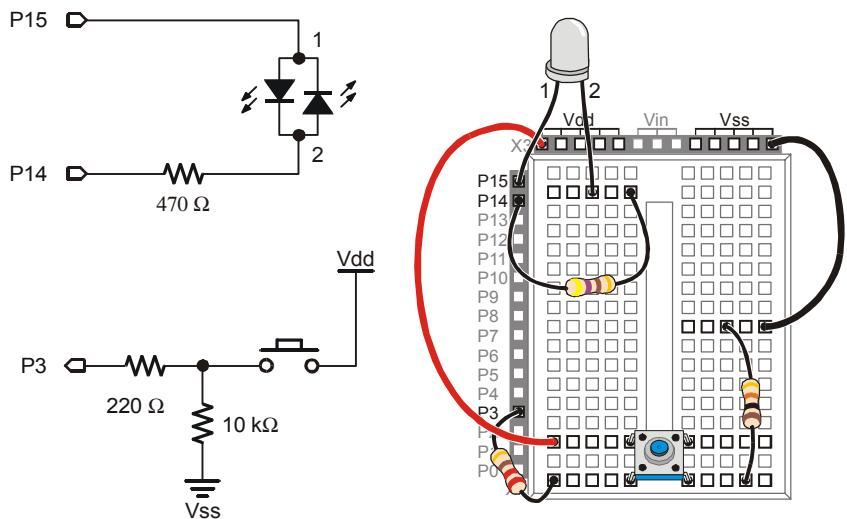

Figure 3-14
Figure 3-14 shows a schematic and wiring diagram for a circuit that can be used with the BASIC Stamp to make a reaction timer game.
- ✓ Build the circuit shown in Figure 3-14.